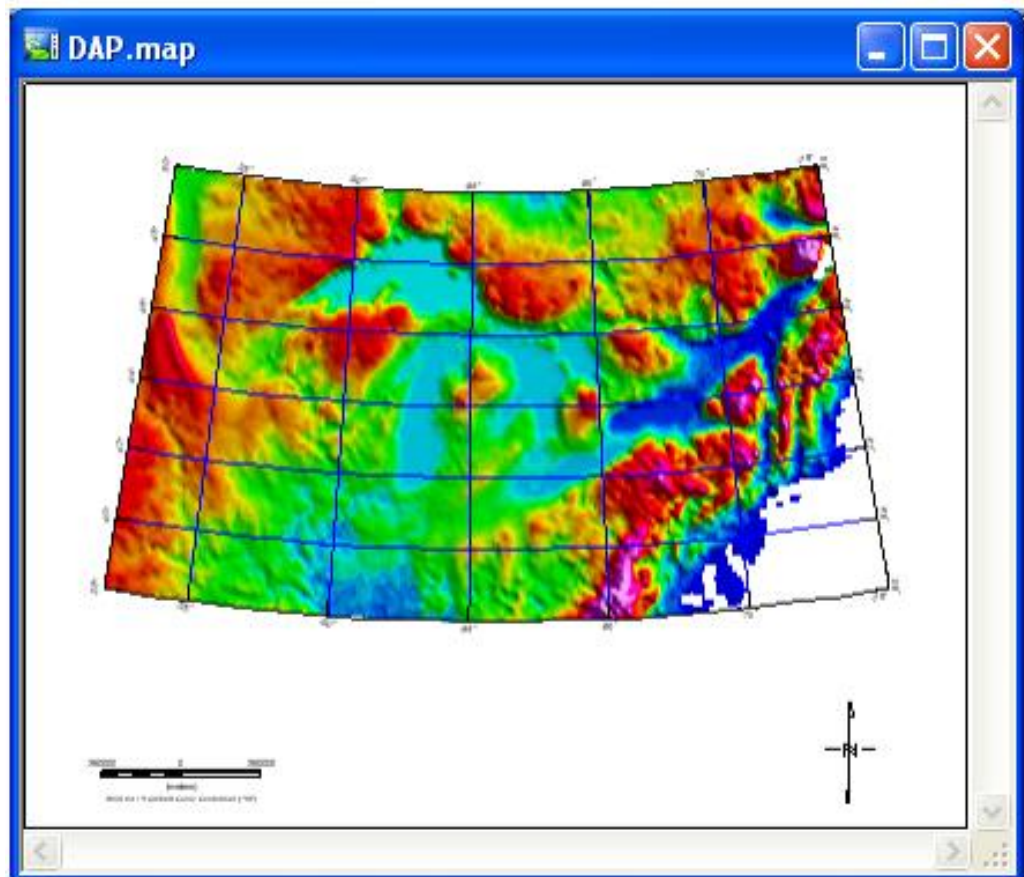

Figure 1.89. – Get DAP Data panel
7. Once the download is complete click the *Exit* (✖) button to close the window. The gridded data will be displayed in your open map. For more information, click the *Help* (?) button on the *Get DAP Data* dialog, fig. 1.89.